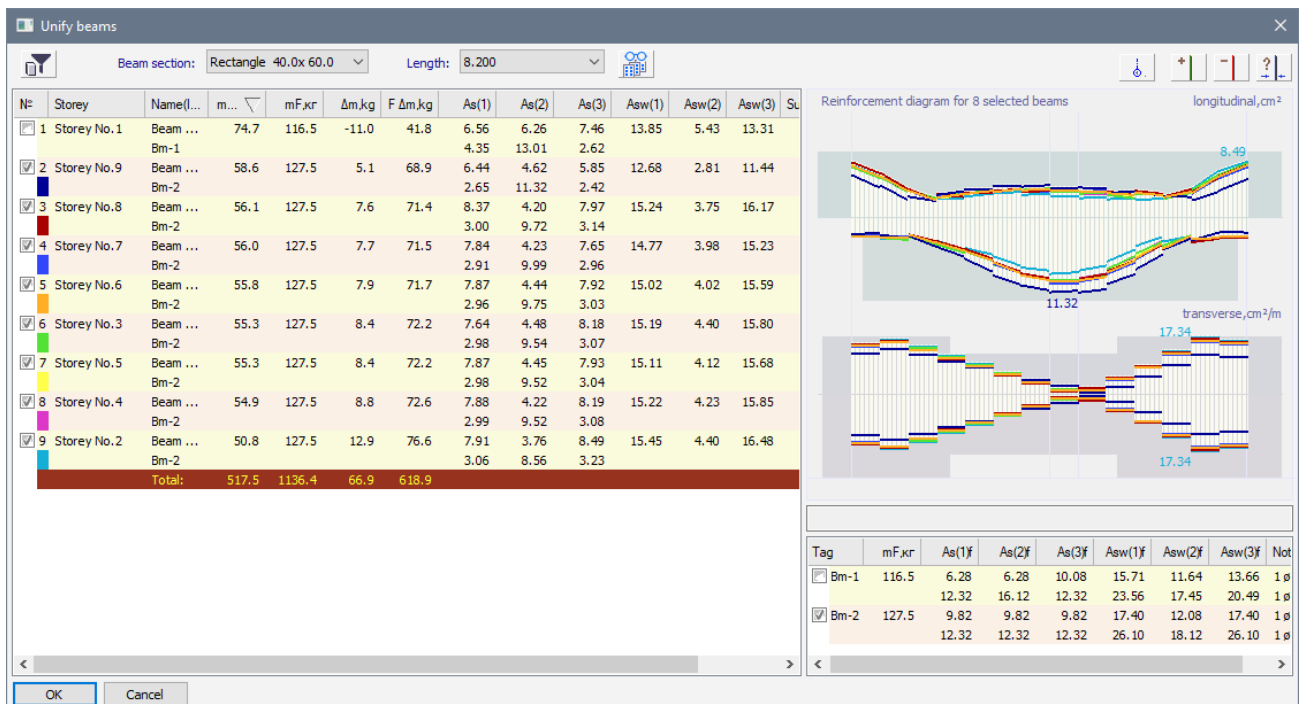

Figure 27.30. Diagrams for actual and theoretical reinforcement for the beam
- ⇒ At the bottom of the right part of the dialog box (see Fig. 27.30) you will see tags Bm-1 and Bm-2. Unified beam Bm-2 satisfies by strength to all 8 beams included into this unification group. In the **Views** window, there will be views of reinforcement **Bm-1** and **Bm-2** in the **Assemblies** folder and several section views in the **Sections** folder.